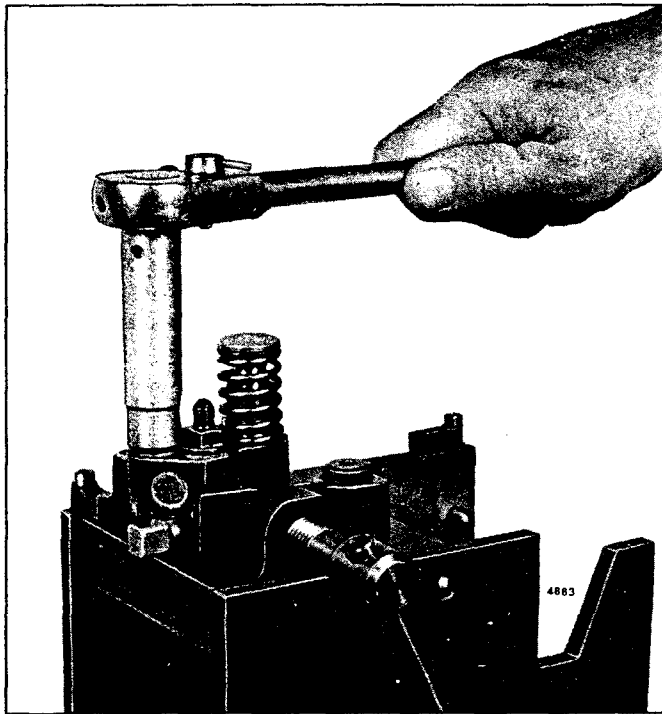

Fig. 28 – Installing Filter Cap
- 3. Place a new gasket on each filter cap. Lubricate the threads and install the filter caps (Fig. 28). Using a 9/16” deep socket and a torque wrench tighten the filter caps as follows: